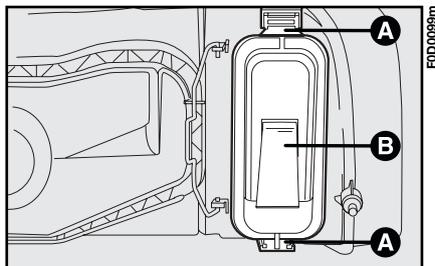

fig. 15
2) release the retaining clips **A-fig. 15** and remove the cover **B**;
5) replace the bulb, refit the bulb holder and the cover **B-fig. 15**.
- 2) release the retaining clips **A**-fig. 15 and remove the cover **B**;
- 5) after replacing the bulb refit the bulb holder and the cover **B**-fig. 15.